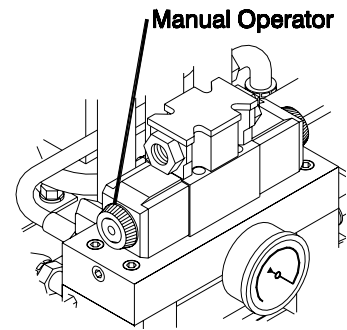

Figure 21. Hydraulic Manifold
- c) Go to the hydraulic manifold and locate the manual operator coil, on the same side of the machine toward which the activator plate must travel. For example: if the plate overran to the left, and requires moving it to the right, toward the resin pump, the manual operator on the resin side of the directional valve is the one to activate (See Figure 21).